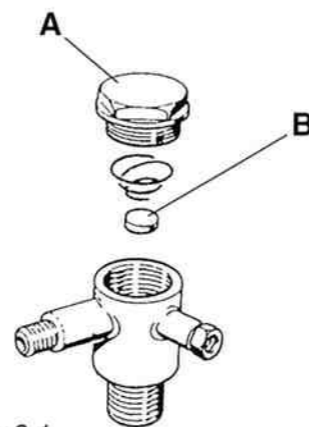

Fig. 8-1
Loss of air from pressure switch or electrovalve.	The no-return valve is worn out or the sealing disk is dirty so that air comes in from the tank.  Unscrew the hexagonal head (A) of the valve. Clean its housing. Clean or replace the rubber disk (B). Reassemble meticulously (fig. 8-1).